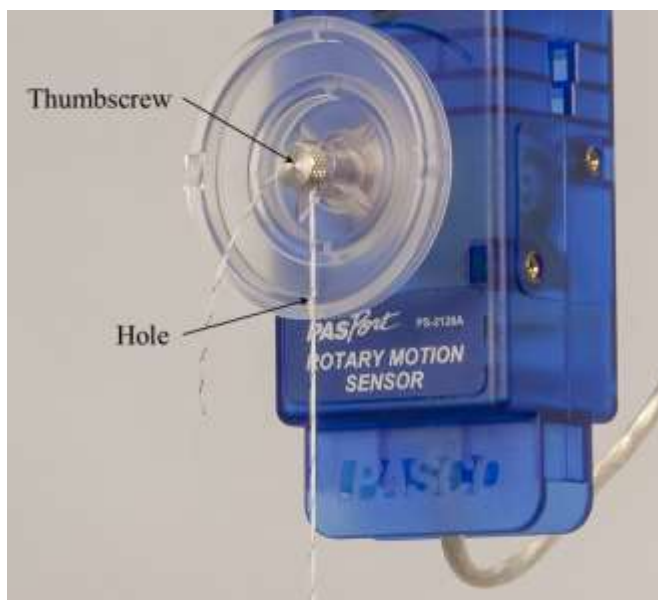

Figure 2: Attaching the string to the Rotary Motion Sensor
2. Cut a length of string about 2.0 m long and thread one end of the string through one hole in the large diameter step of the Rotary Motion Sensor pulley as shown in Figure 2. Loosen the thumbscrew at the center of the pulley, and wrap the end of the string around the threads just behind the thumbscrew head, as shown in Figure 2. Tighten the thumbscrew to secure the string.